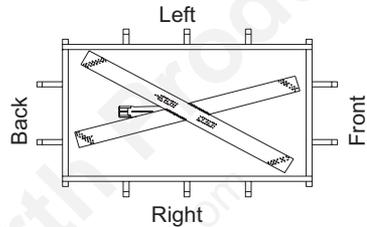

Figure 48 - Burner and Grate (Top View)
5. Figure 48 shows the top view of burner and grate.